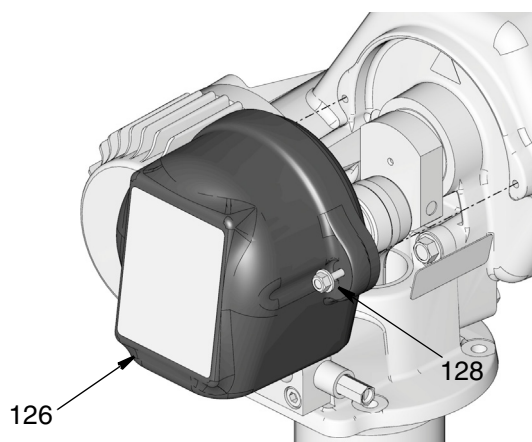

FIG. 10
- Check breather (J) vent for proper operation before filling reservoir.
- Open overflow port (H) before filling reservoir to visually inspect lubrication level.
- Do not fill reservoir beyond overflow port (H).
7. Reinstall cover (126) using bolts (128). Use a wrench to tighten bolts securely (FIG. 10).